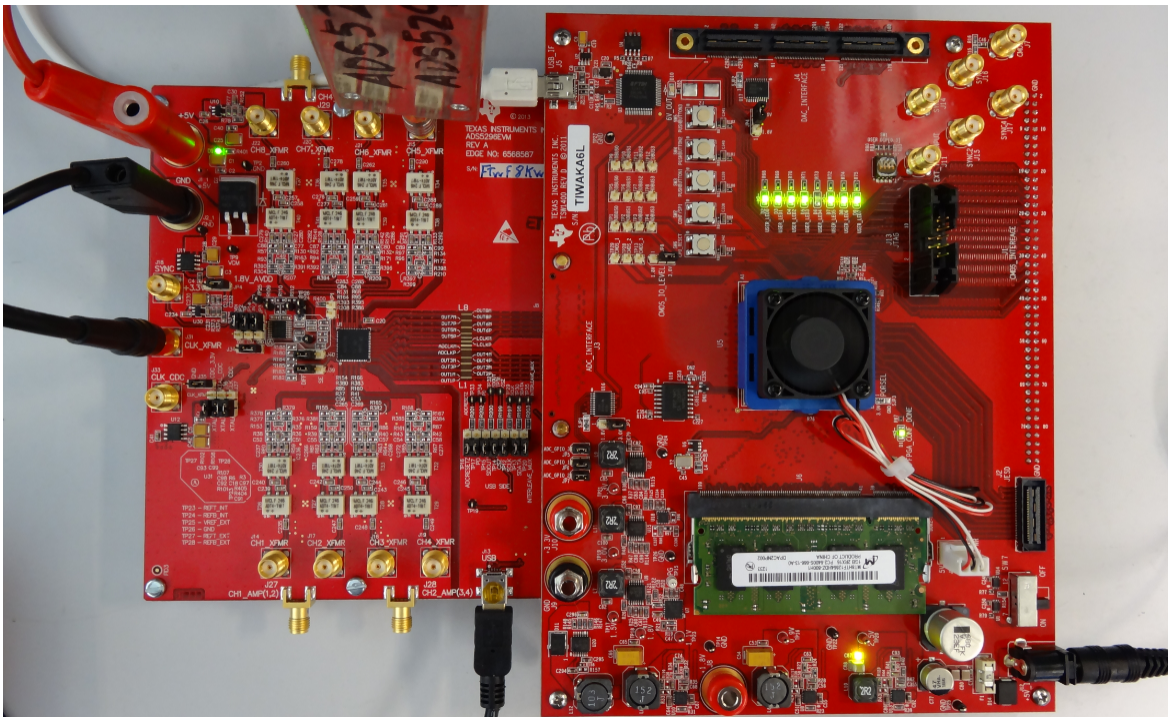
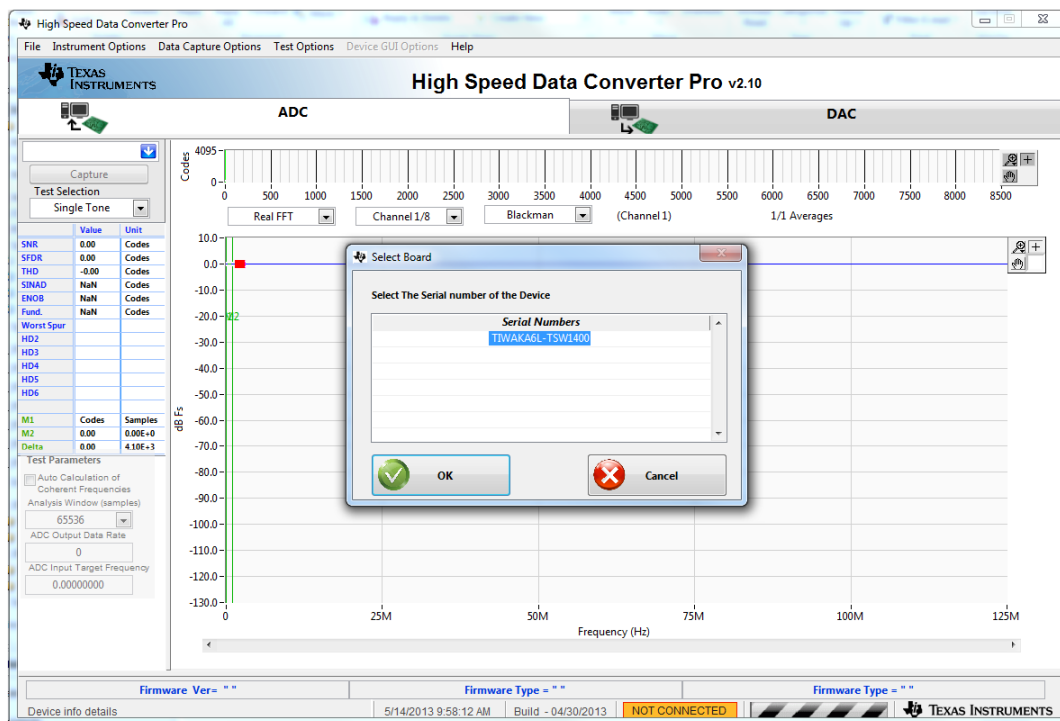

Figure 18. TSW1400 and ADS5296A EVM Setup
Figure 22. TSW1400 GUI Setup (a)
The connections shown in Figure 18 should be made for proper hardware setup (*Note: Testing the LVDS interface between the ADS5296A EVM and the TSW1400 EVM can be performed using a RAMP function generated within the ADS5296A device in lieu of the signal source listed in item 7 below. Also, an on-board 80-MHz crystal oscillator (XTAL) can provide the ADC sampling clock in lieu of the signal source listed in item 6 below. This configuration is only recommended for testing the RAMP function as low phase noise filtered signal sources must be provided to both the ADC clock input and the ADC analog inputs for measuring device performance*).
1. With the setup outlined in Figure 18 established, launch the *High Speed Data Converter Pro* GUI. The GUI should automatically detect the serial number of the TSW1400 EVM, connected as shown in Figure 22. Click on OK.